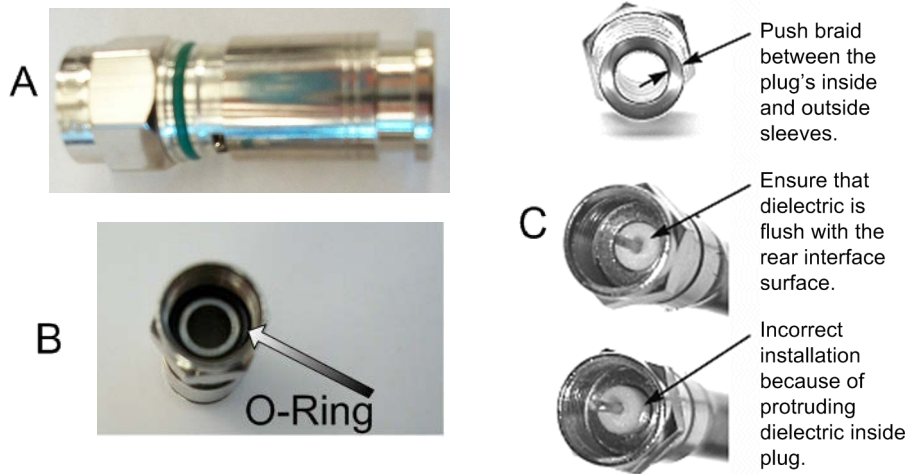

Figure B-4. Attaching the Compression fitting F-type Connector
8. Install the RG-6 connector compression sleeve, or mandrel, (top left (A) in Figure B-4 on page 64) over foil and underneath the braid. A good, weatherproof outdoor connector mandrel should have a visible O-Ring (bottom right (B) Figure B-4 on page 64).
**NOTE:** The white colored inner dielectric insulation should be flush with the inner rear surface of the connector. Refer to the picture on the right (C) in Figure B-4 on page 64 for an RG-6/RG-11 termination.